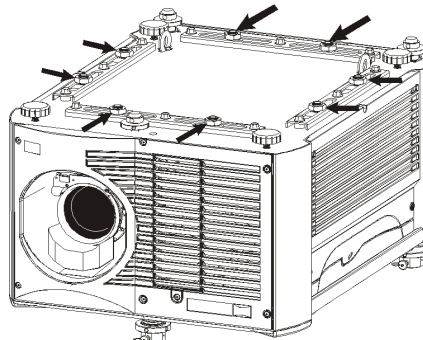

FIGURE 2-13
- Never hoist a projector by its feet, handles, or any other component. See *Figure 2-13*.